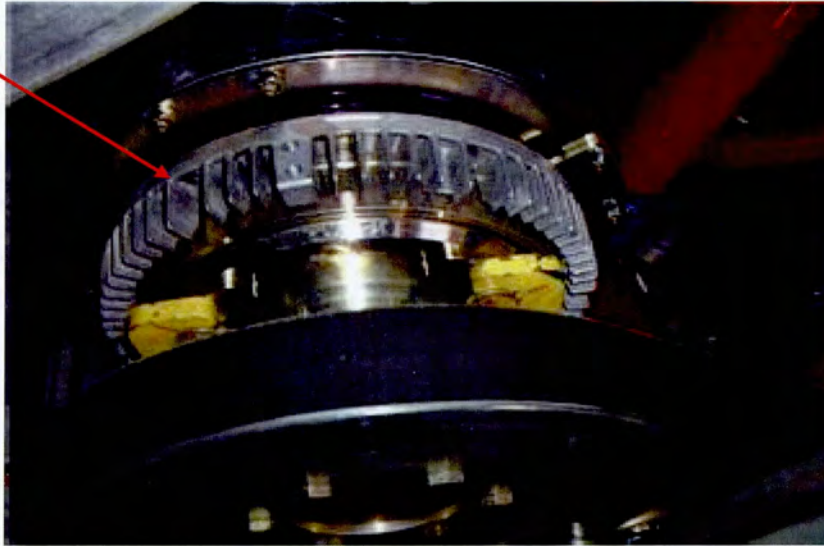

Figure 1: Exhibits the fan clutch that is affected
- Locate the cooling ring that is affected on the fan clutch (See figure 1)